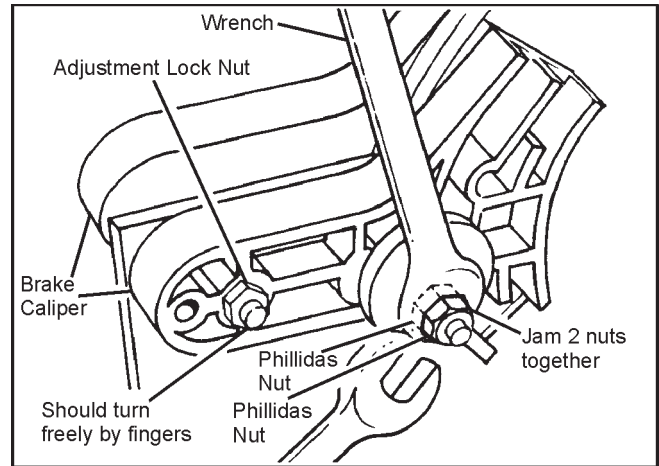
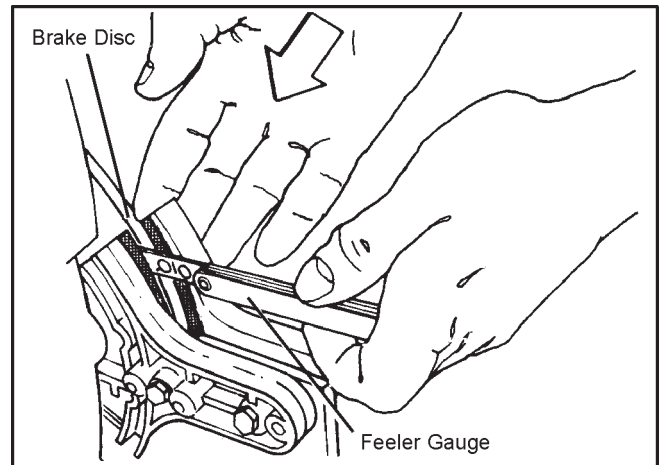

Figure 7-12. Tightening the lock nut.
Figure 7-13. Brake pad wear, mechanical brakes.
1. Tighten the lock nut with a 1/2" open end wrench, no wider than the thickness of the lock nut (Figure 7-12). As the lock nut is tightened, measure the clearance between the brake disc and pad as shown in Figure 7-13, using a .010" feeler gauge. .010" is the correct clearance between the left brake pad and the brake disc when the right pad is pressed against the disc.